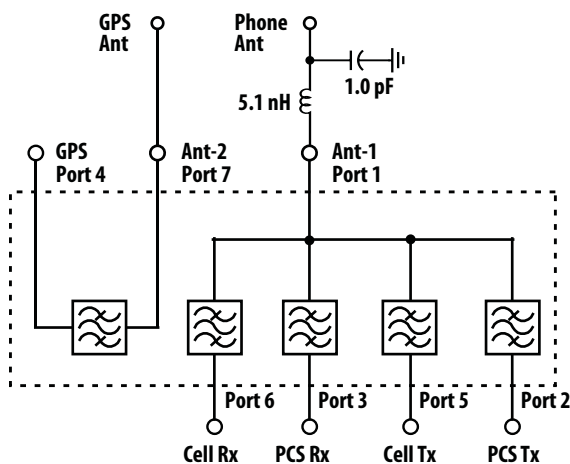

Figure 1. Dual Antenna Application
4. Unless otherwise noted, specifications are for Dual Antenna connection as shown in Figure 1 and include effect of 5.1 nH inductor and 1.0 pF capacitor added to Port 1 (Ant-1) via simulation.
- Unless otherwise noted, specifications are for Dual Antenna connection as shown in Figure 1 and include effect of 5.1 nH inductor and 1.0 pF capacitor added to Port 1 (Ant-1) via simulation.
For applications in which a separate GPS antenna is preferred, the ACFM-7104 can be connected as shown in Figure 1.
1. Dual Antenna connection as shown in Figure 1. Data measured with  $Z_0=50 \Omega$  for all ports; performance shown includes effect of 5.1 nH inductor and 1.0 pF capacitor added to Port 1 (Ant-1) via simulation.